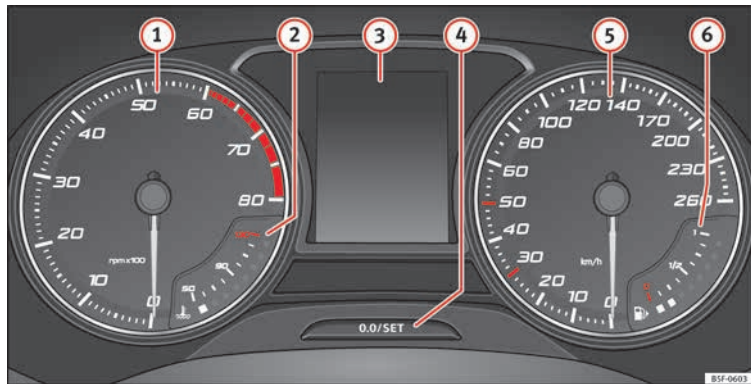

Fig. 110 Instrument panel, on dash panel
Details of the instruments » Fig. 110:
The rev counter indicates the number of engine revolutions per minute » **Fig. 110 ①**.
Never allow the rev counter needle **①** » **Fig. 110** to go into the red zone on the scale for more than a very brief period, otherwise there is a risk of engine damage.
A variety of information can be viewed on the instrument panel display » **Fig. 110 ③** depending on the vehicle equipment:
- Briefly press the button » **Fig. 110 ④** to reset the trip recorder to 0.
- Keep the button **④** pressed for about 3 seconds and the previous value will be displayed.
- To set the time, keep the button **»» Fig. 110 4** pressed for more than 3 seconds to select the hour or minute display.
Hold the button **»» Fig. 110 4** down for more than 15 seconds to display the identifying letters of the vehicle engine (MKB). To do this, the ignition must be switched on and the engine switched off.
The coolant temperature gauge **②** » **Fig. 110** only works when the ignition is switched on. In order to avoid engine damage, please read the following notes for the different temperature ranges.